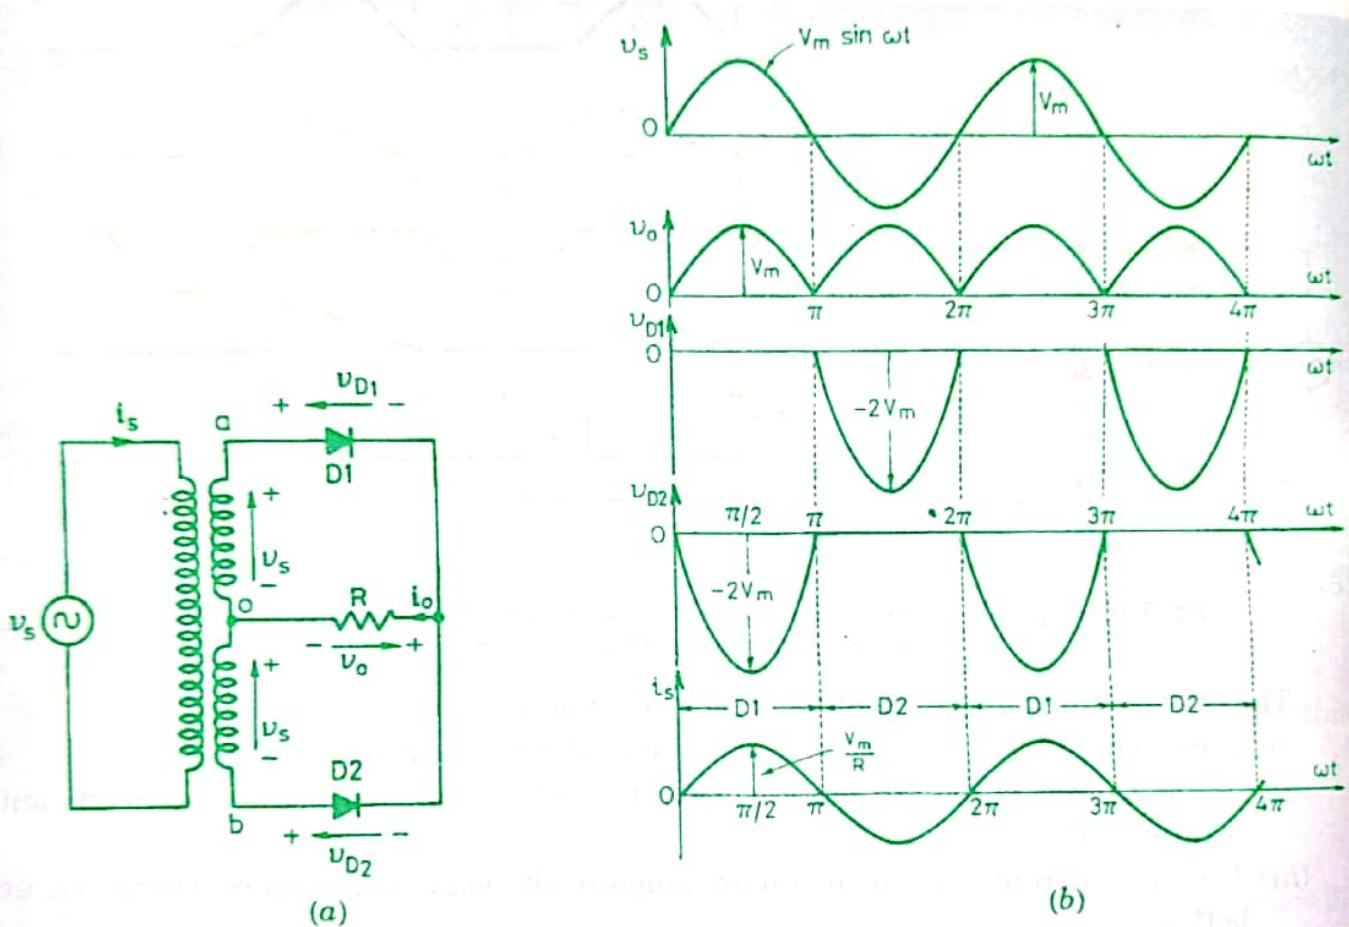
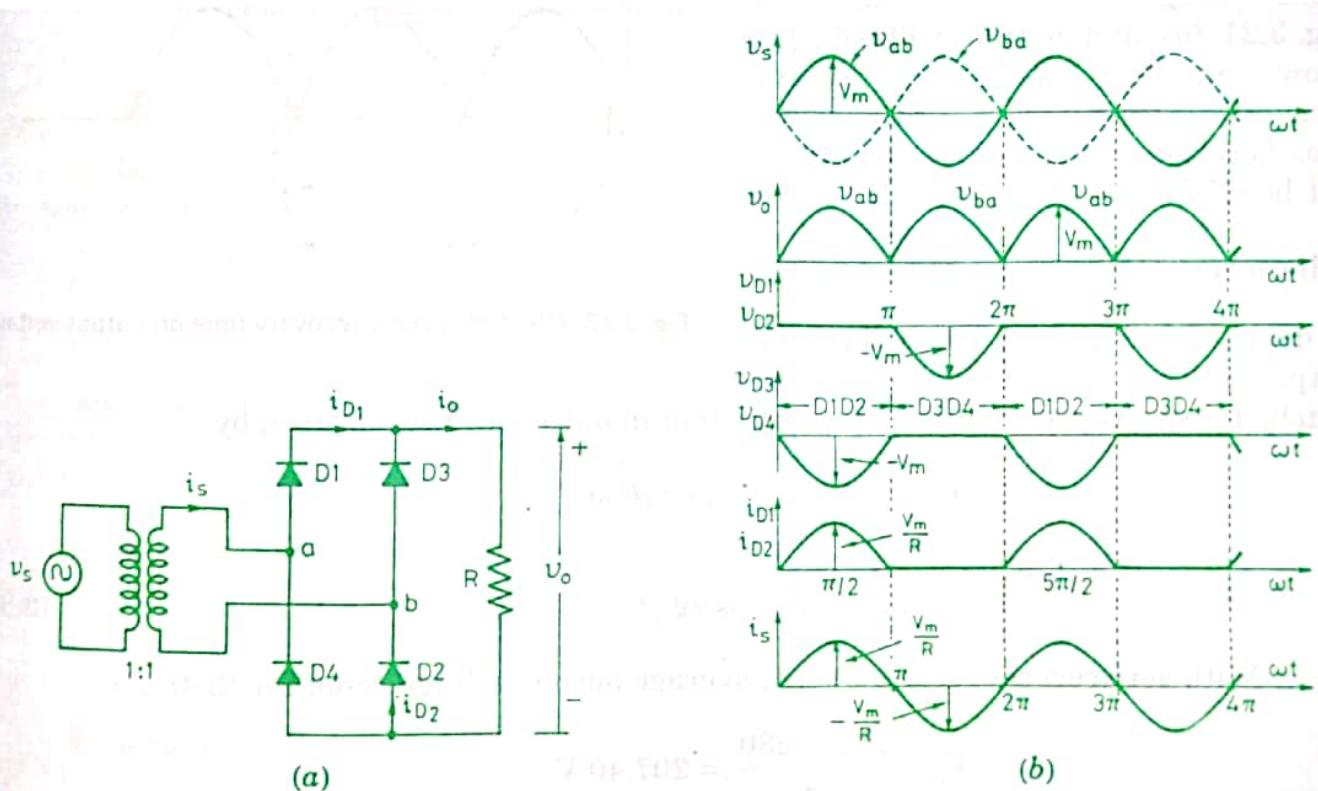

Fig. 3.20. Single-phase full-wave mid-point diode rectifier (a) circuit diagram and (b) waveforms.
Fig. 3.21. Single-phase full-wave diode bridge rectifier (a) circuit diagram and (b) waveforms.
(i) **Single-phase full-wave mid-point diode rectifier** : Fig. 3.20 (a) illustrates a single-phase full-wave mid-point rectifier using diodes. The turns ratio from each secondary to primary is taken as unity for simplicity. When 'a' is positive with respect to 'b', or mid-
point *O*, diode D1 conducts for  $\pi$  radians. In the next half cycle, '*b*' is positive with respect to '*a*', or mid-point *O*, and therefore diode D2 conducts. The output voltage is shown as  $v_0$  in Fig. 3.20 (b). The waveform for output current  $i_0$  (not shown in the figure) is similar to  $v_0$  waveform. When '*a*' is positive with respect to '*b*', diode D2 is subjected to a reverse voltage of  $2v_s$ . In the next half cycle, diode D1 experiences a reverse voltage of  $2v_s$ . This is shown in Fig. 3.20 (b) as  $v_{D1}$  and  $v_{D2}$ . Thus, for diodes D1 and D2, peak inverse voltage is  $2V_m$ . Waveforms of Fig. 3.20 (b) show that for one cycle of source voltage, there are two pulses of output voltage. So single-phase full-wave diode rectifier can also be called *single-phase two-pulse diode rectifier*.
Source current waveform  $i_s$  is also shown in Fig. 3.20 (b). When D1 conducts, current in secondary flows upward from *o* to *a* and therefore, primary current  $i_s$  must flow *downward* to balance the secondary mmf from 0 to  $\pi$  rad. When D2 conducts, secondary current flows downward from *o* to *b*, therefore, primary current  $i_s$  must flow *upward* to balance the secondary mmf from  $\pi$  to  $2\pi$  and so on.
(ii) **Single-phase full-wave diode bridge rectifier :** A single-phase full-wave bridge rectifier employing diodes is shown in Fig. 3.21 (a). When 'a' is positive with respect to 'b', diodes D1, D2 conduct together so that output voltage is  $v_{ab}$ . Each of the diodes D3 and D4 is subjected to a reverse voltage of  $v_s$  as shown in Fig. 3.21 (b). When 'b' is positive with respect to 'a', diodes D3, D4 conduct together and output voltage is  $v_{ba}$ . Each of the two diodes D1 and D2 experience a reverse voltage of  $v_s$  as shown.
A comparison of Figs. 3.20 (b) and 3.21 (b) reveals that a diode in mid-point full-wave rectifier is subjected to PIV of  $2V_m$  whereas a diode in full-wave bridge rectifier has PIV of  $V_m$  only. However, average and rms values of output voltage are the same for both rectifier configurations.
For the waveforms of diode current  $i_{D1}$  or  $i_{D2}$  in Fig. 3.21 (b) and also for  $i_{D3}$ ,  $i_{D4}$  for the circuit of Fig. 3.20 (a) (not shown in Fig. 3.20 (b)), the average and rms values for diode current are obtained as under :
It can similarly be shown that average value of voltage across each diode in Fig. 3.20 (b) is  $\frac{2V_m}{\pi}$  and that in Fig. 3.21 (b) is  $\frac{V_m}{\pi}$ . The corresponding rms values of voltage across each diode is  $V_m = \sqrt{2} V_s$  in Fig. 3.20 (b) and  $\frac{V_m}{\sqrt{2}} = V_s$  in Fig. 3.21 (b).
**Solution.** Single-phase full-wave diode bridge rectifier is shown in Fig. 3.21 (a) and output voltage  $v_o$  is shown in Fig. 3.21 (b). If reverse recovery time is taken into consideration, the diodes D1 and D2 will not be off at  $\omega t = \pi$  in Fig. 3.21 (b), but